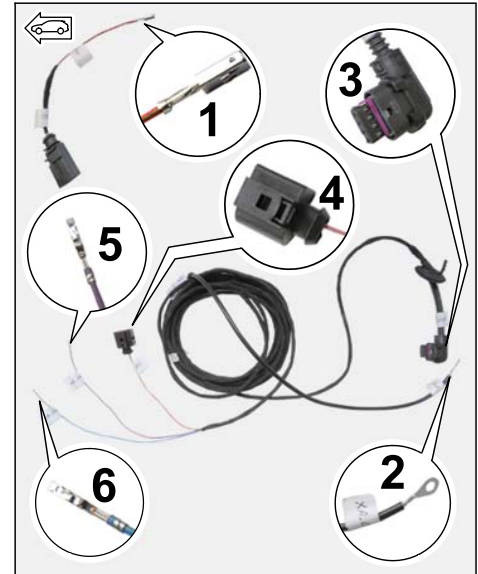

Figure 35
– Wire harness connections (⇒ Figure 35):